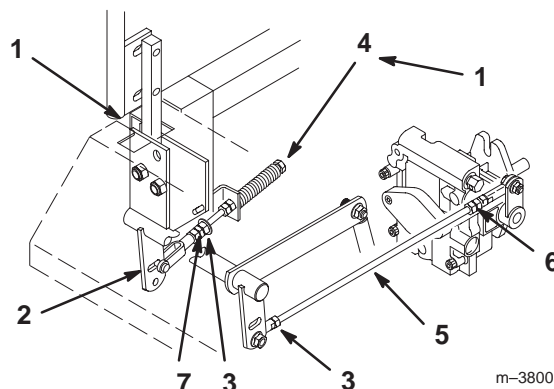

Figure 42
2. Begin with either the left or right motion control lever. Move lever to the neutral (but not locked) position and pull lever back until the clevis pin (on arm below pivot shaft) contacts the end of the slot (just beginning to put pressure on spring) (Fig. 42).
3. Check where lever is relative to notch in console (should be centered allowing lever to pivot outward to the neutral lock position) (Fig. 42).
5. Loosen locknut at ball joint on pump control rod (Fig. 42).
6. Adjust pump rod length by rotating double nuts on rod, in the appropriate direction, until wheel is still or slightly creeps in reverse (Fig. 42).